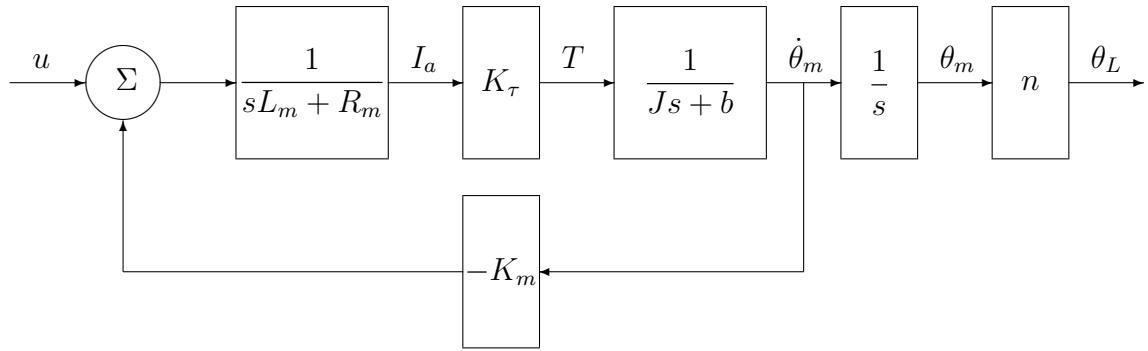

Figure 2: Block diagram of robot arm.
The block diagram for the robot arm is given in Figure 2.
Table 1: Descriptions and definitions of constants in Figure 2
**Assignment 1.** Based on the block diagram in Figure 2, and the parameter values in Table 1, calculate the transfer function of the robot arm first analytically and then print it out with numerical values.
**Assignment 10.** Again study the block diagram of Figure 2. Find the state space description of the system with the states  $x_1 = \theta_L$ ,  $x_2 = \dot{\theta}_m$  and  $x_3 = I_a$ . Compute the matrices  $A$ ,  $B$  and  $C$  analytically (*do not use MATLAB, this should be done by hand calculations*)